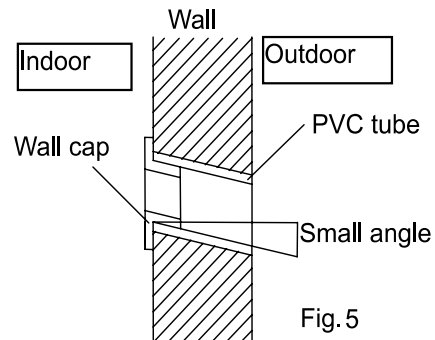

Fig. 5
- Drill holes as Fig.5 shows. The hole, 80mm in diameter, should slightly slide down outwards..
- Cut PVC tubes at a slight angle in the length shorter than wall thickness and inset it into the hole.(Fig.5)